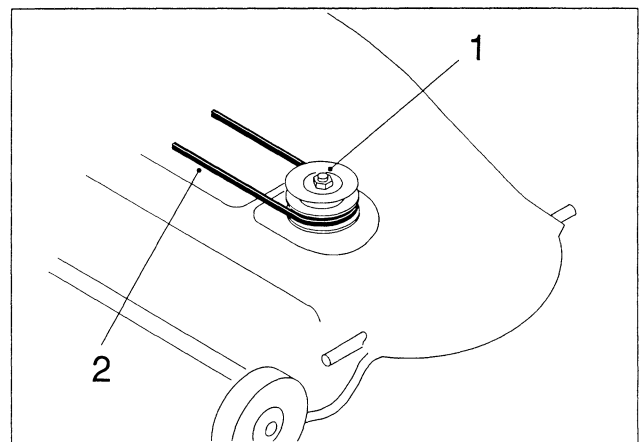

Figure 2
4. Screw the new pulley onto the pulley shaft making sure the hex-head nut side is facing up. Tighten the nut to 60–80 ft-lb. (Fig. 2).